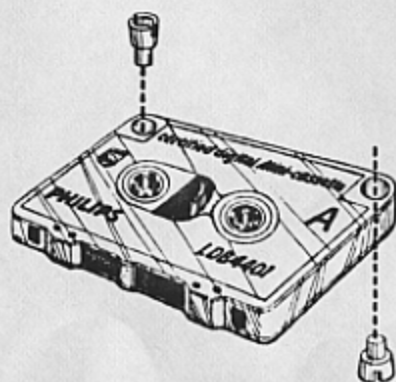

Fig. 3. Mini-DCR - Physical Composition of the Mini-Cassette
- Each mini-cassette can be equipped with a write-enable plug in order to prevent writing on a recorded tape. The position of the write-enable plug determines whether writing is enabled on track 1 or 2 (see fig. 3).